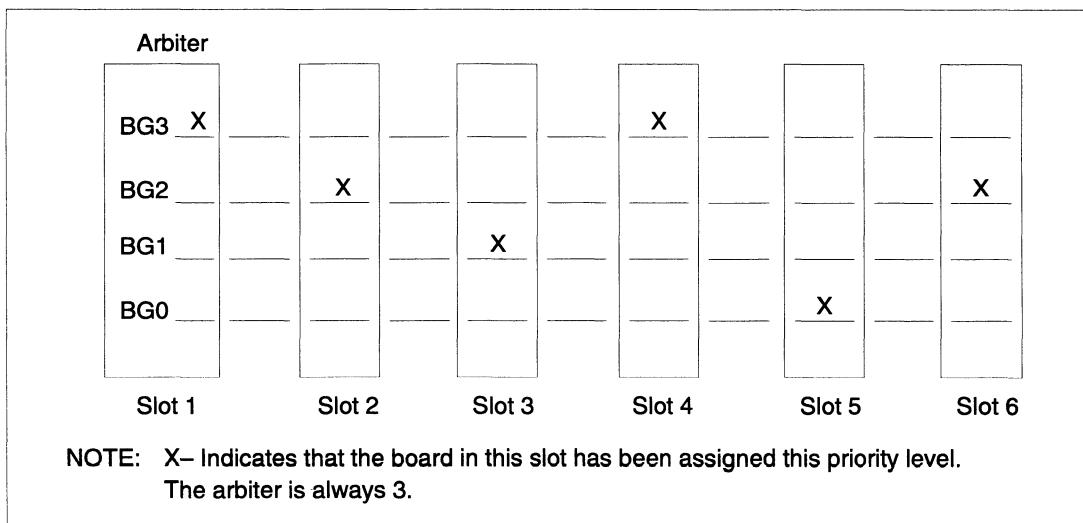

Figure E-1 Example of Fixed Prioritized Assignments
Figure E-1 shows an example of how fixed-level priority settings and board positioning within the system affect overall DTB priority arbitration.
The example in Figure E-1 shows an AViiON system with fixed priority DTB assignments. In this example, the priority arbitration sequences according to the following slot order:
4. The recommended board position within a VME DTB Group is defined by the order of the board in Table E-1 from top to bottom, with the top being closest to the arbiter. Remember position priority is only at an individual fixed priority level (Figure E-1). A level 3 board always has priority over a level 2, 1, or 0 board, no matter what their position within the system is relative to each other.